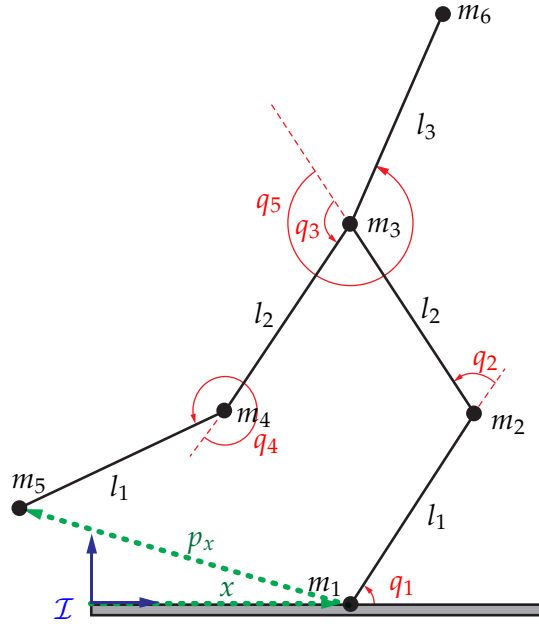

Figure 1: Five-link biped robot.
This assignment is a simulation laboratory that will allow you to gain a concrete understanding of the modelling of biped robots. The robot you will work with is the five-link biped depicted in Figure 1 which has the same structure of the robot RABBIT used by researchers at the University of Michigan and in Grenoble, France to test the first VHC-based control strategies. In this lab there is a minor conceptual component and mostly coding. You will be guided through the detailed steps of the code development. The last section of the document details the submission guidelines.
Consider the five-link biped robot in Figure 1. We make the following assumptions:
- The links are point masses m_i with massless rods, and these point-masses are positioned in the manner illustrated in Figure 1. The total kinetic energy is given by $K = 1/2 \sum_{i=1}^6 m_i \|\dot{r}_i\|^2$, where \dot{r}_i is the inertial velocity of mass m_i .
- The angles q_1, \dots, q_5 are measured counterclockwise, and they are defined in Figure 1.
- (a) Find expressions for the positions of the six masses, r_i , $i \in \{1, \dots, 6\}$, with respect to the inertial frame \mathcal{I} in Figure 1. Your expressions should be in terms of \bar{q} , and determined assuming that the stance foot is at $x \in \mathbb{R}^2$, the vector shown in Figure 1.
where $(dp_x)_q$ is the Jacobian of $p_x(q)$, the vector with head at the swing foot and tail at x (see Figure 1). Define symbolic variables `px` and `E` containing $p_x(q)$ and the expression above for $E(q)$.